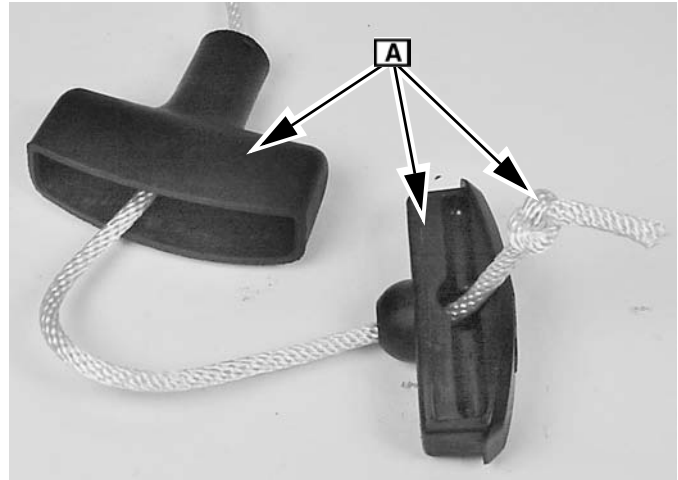

Fig. 58
6. Install starter handle **A** as shown in figure 58.